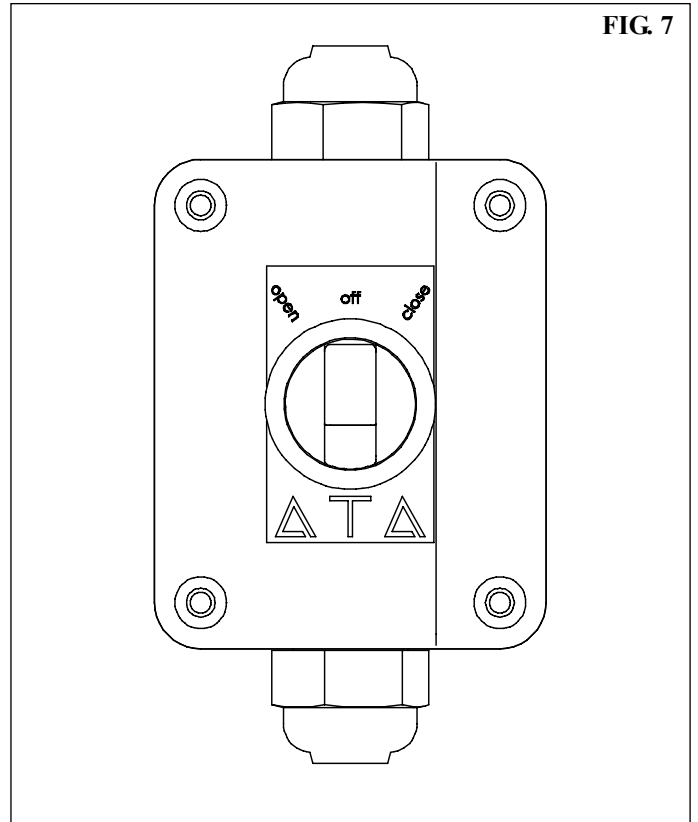

FIG. 7
1. Turn pendant switch anticlockwise to move door to desired open position (**Fig. 7**).